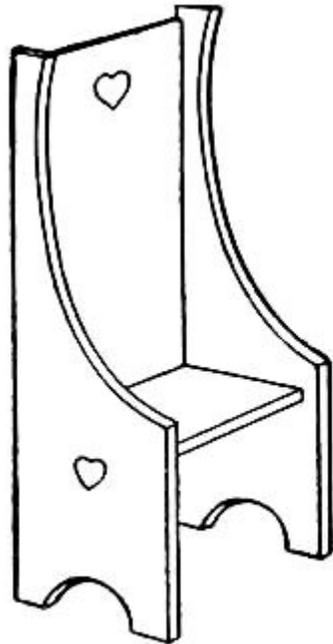

FIG. 127.
**The Chairs** shown in Figs. 127 and 128. These are four and one-half inches high, two inches wide, and an inch and one-half deep. Cut the back for the chair in Fig. 127 four and three-eighths inches high and an inch and three-quarters wide, the sides by the pattern in Fig. 119, and the seat an inch and one-quarter by an inch and three-quarters. With the pieces cut out, fasten them together with brads and glue, placing the seat between the arms and back so that it is an inch and one-half above the base.